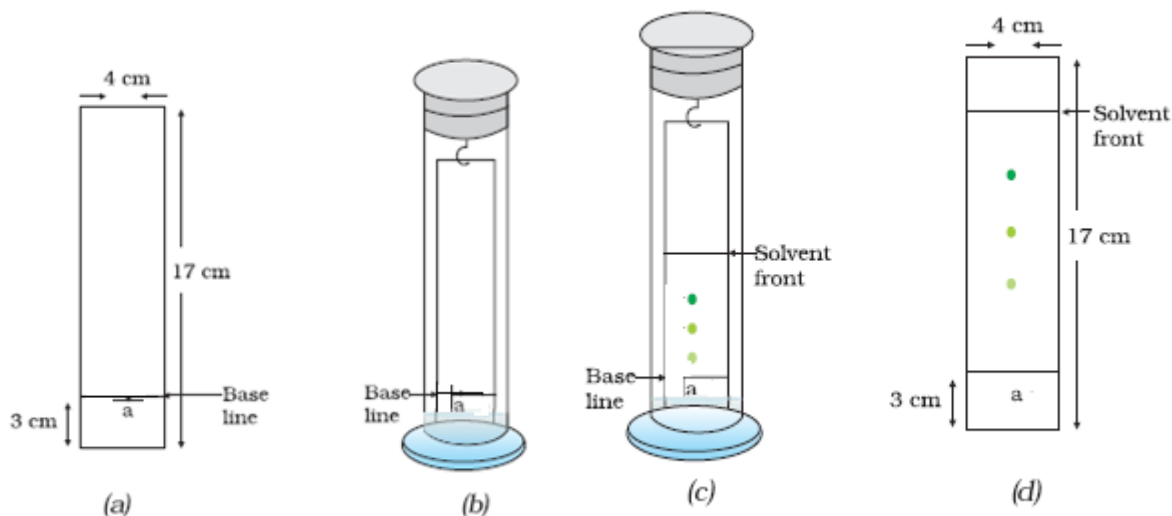

Fig. 5.1 : (a) Marked paper; (b) Dipping the filter paper in the solvent; (c) Developing chromatogram; and (d) Developed chromatogram
- (iii) Procure a Whatman filter paper No.1 of size 4 cm × 17 cm and mark a line at a distance of 3 cm from one of the ends of the paper with the help of a pencil [Fig. 5.1(a)].
- (iv) Using a finely drawn capillary put one spot 'a' for the extract of leaves. Allow these spot to dry as shown in Fig. 5.1 (a).
- (v) Hang the filter paper in a jar containing 20 mL mixture of petroleum ether (boiling range 60–80°C) and chloroform containing 19 mL petroleum ether and 1 mL chloroform or a mixture of petroleum ether (boiling range 60–80°C) and acetone in the ratio 9:1 (18 mL petroleum ether + 2 mL acetone) so that the solvent does not touch the reference line as given in Fig. 5.1 (b).
- (vi) Keep this jar as such till the mobile phase (solvent) rises up to 2/3 of the length of the paper [Fig. 5.1(c)].
(viii) Measure the distance travelled by the solvent front and the centre of different spots with respect to the reference line as given in Fig. 5.1 (d).